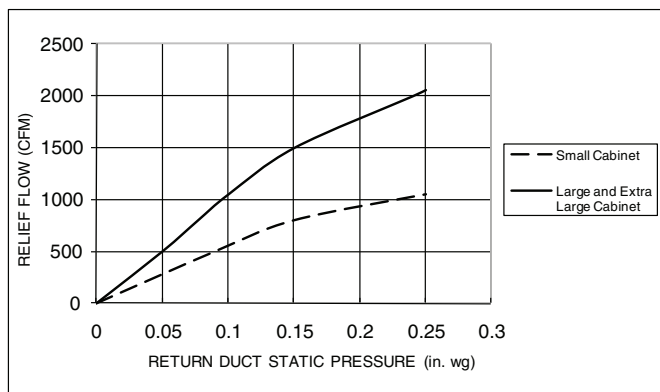

Fig. 11 — Barometric Flow Capacity
15. See economizer performance charts in Fig. 11 and 12. See base unit installation manual to make adjustments to meet building ventilation requirements.